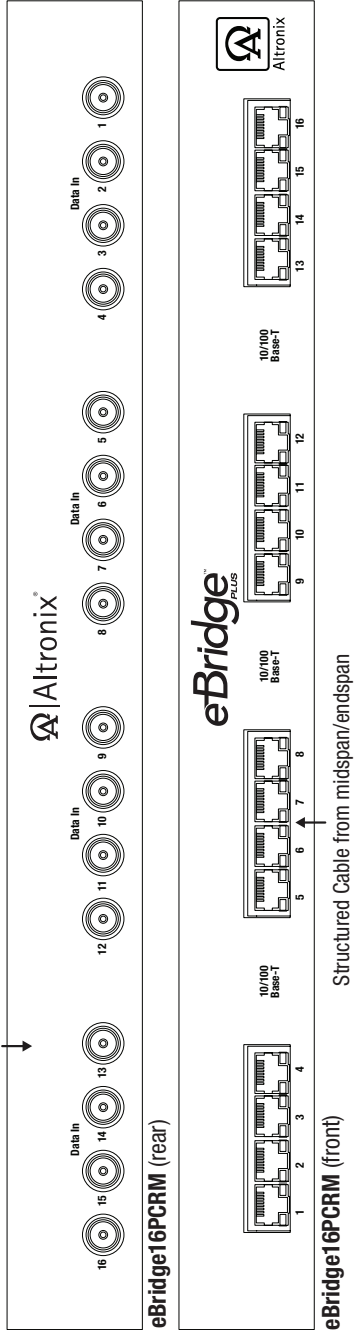

Fig. 2
b. Connect structured cable from ethernet midspan or endspan device to RJ45 jack marked [10/100BaseT] (*Fig. 2, pg. 5*).
b. Connect structured cable from IP camera/device to RJ45 jack marked [10/100BaseT] (*Fig. 2, pg. 5*).
c. Connect Coax cable to BNC connector marked [Coax] (*Fig. 2, pg. 5*).